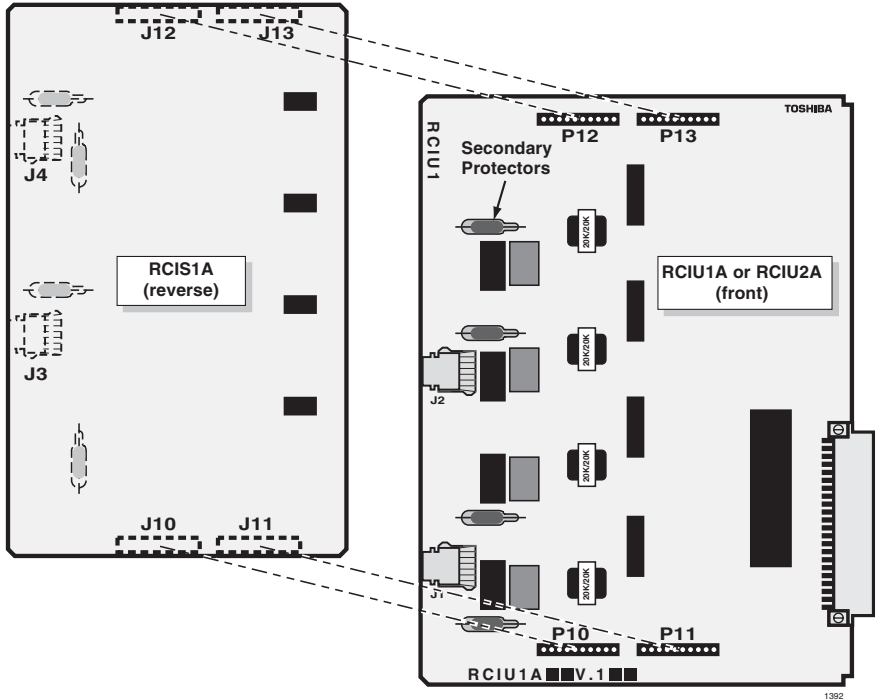

Figure 6-14 RCIU1/RCIS PCB
1. Install the RCIS onto the RCIU1 or RCIU2 as required (see Figures 6-14 and 6-15).